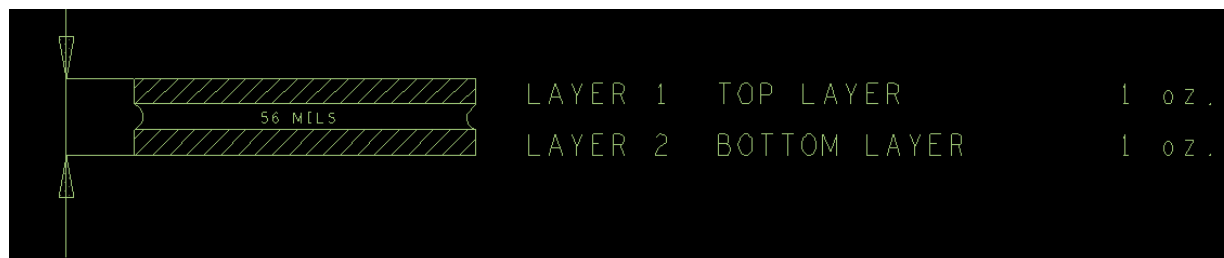

Figure 5. RT1020-EVK stackup
- The recommended stackup is two layers, with the layer stack shown in Figure 5.